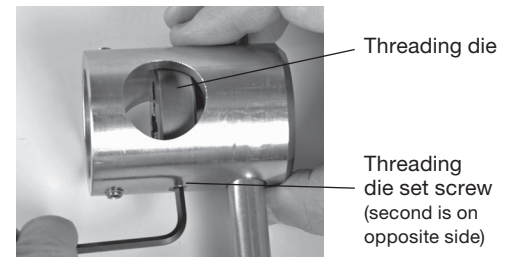

Fig. 14 Loosening the threading die set screws and removing the threading die
3. Loosen the two 1/4 in. threading die set screws using a 1/8 in. hex key. (Fig. 14)